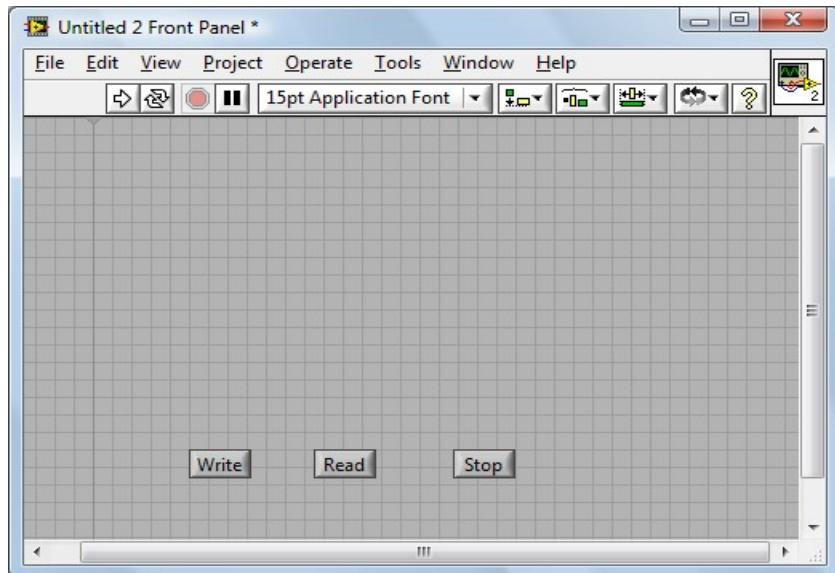

Figure 4-3-2
2. Right-click the Front Panel to choose Controls>>Modern>>Boolean>>OK Button; add three buttons and respectively define them as Write, Read and Stop. See figure 4-3-2.